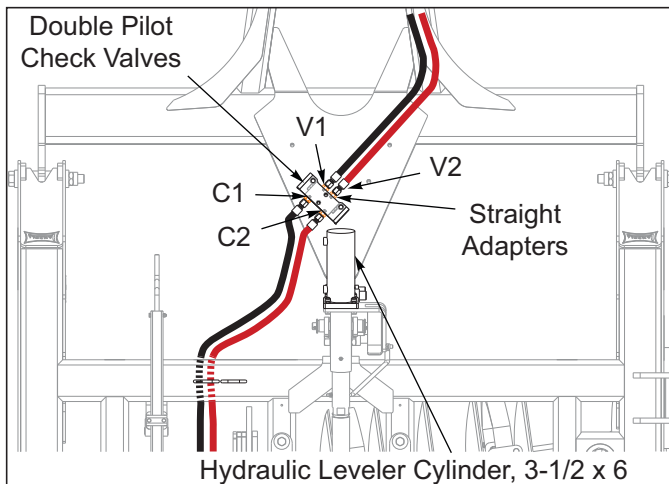

Figure 3-7: Check Valve Placement
2. At the rear of the hitch **See Figure 3-7** there will be two identical valves installed (Double Pilot Operated Check Valves) with 3/8 x 3-1/2" bolts and nuts onto the hose clamp. Install these valves with the V1/V2 ports facing the tractor and the C1/C2 Ports facing the rear. Install straight o-ring adapter fittings into each of the 8 outlets. When plumbing the hydraulic disc gangs or the leveler it does not matter which hose goes to C1/C2 or V1/V2, leveler hydraulics **upper valve, See Figure 3-43** or gang hydraulics **lower valve, See Figure 3-36** 7531-23'/26'/29'/32'/35'), just so they are facing the correct direction and hooked to the cylinder or the tractor correctly.